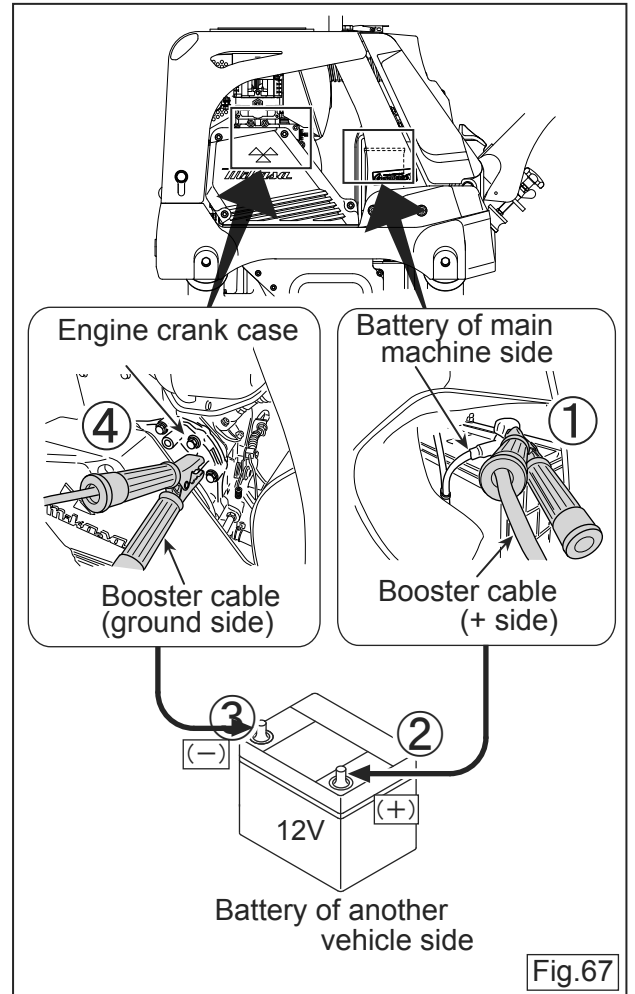

Fig. 67
Remove the handle cover, and if the accumulator move about 2 to 3 cm when moved the travel lever to backward position as shown in Fig. 67, air bleeding is completed. If there is the lack of air bleeding, do the procedure "1" again. (Fig.64,
**● Starting method using booster cable (Jump-starting)(Fig. 67)**
- ① + (red) terminal of the battery of machine side
- ② + (red) terminal of the battery of another vehicle side
- ③ - (black) terminal of the battery of another vehicle side
- ④ Unpainted and protruded part of the crank case of the engine shown by "Fig. 67" (Connect the ground wire.)